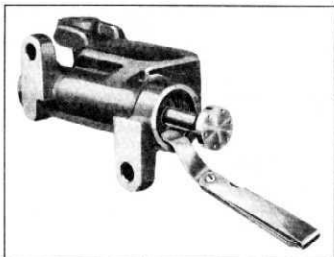

Fig. 28—Checking Main Cylinder Piston Fit
4. Check piston fit in cylinder bore (fig. 28). The clearance between piston and wall of the cylinder should be from .001"-.005".